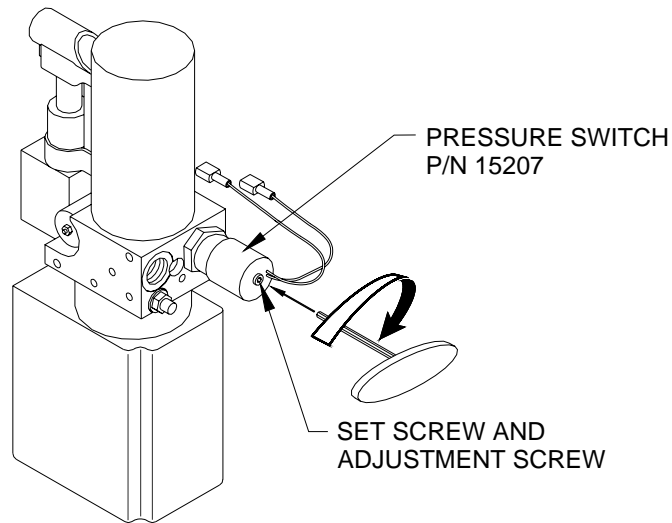

FIGURE 2-18: HYDRAULIC PUMP WITH PRESSURE SWITCH
- c. Refer to **Figure 2-18**. Remove the 1/4-20 x 1.00" setscrew (with hex recess) from end of pressure switch to gain access to adjustment screw. Save setscrew for reinstallation.